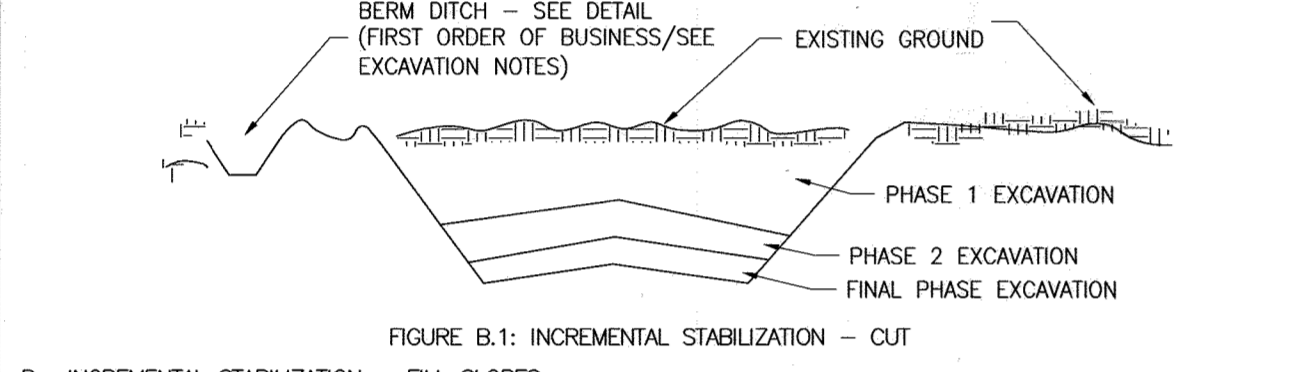

FIGURE B.1: INCREMENTAL STABILIZATION - CUT
- A.2. CONSTRUCTION SEQUENCE EXAMPLE (REFER TO FIGURE B.1.):